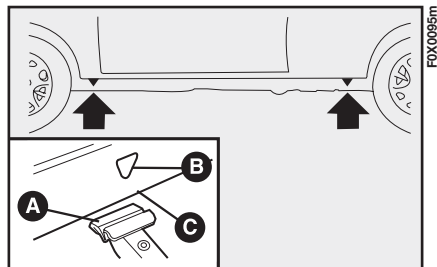

fig. 114
- 4) Arrange the jack at symbol B-fig. 114 close to the wheel to be replaced and make sure that the groove A of the jack is fitted firmly into side member C.